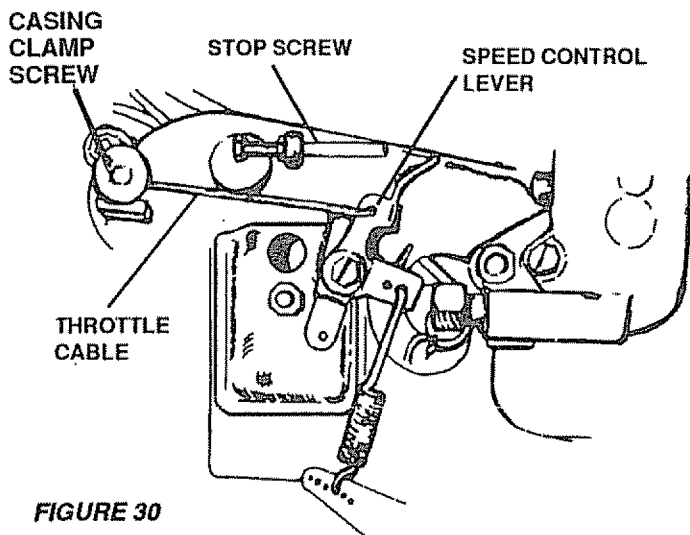

FIGURE 30
- b. Loosen casing clamp screw (Fig. 30) until throttle cable is free to move.